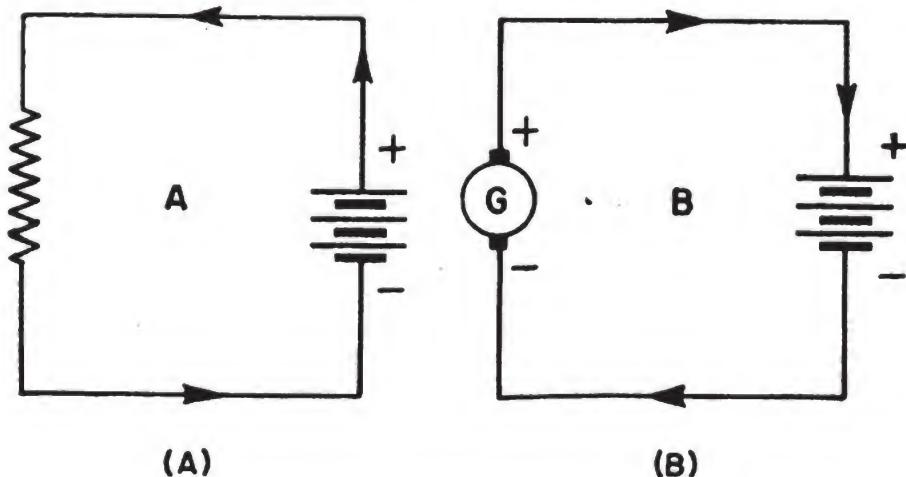

Figure 80.—Battery current—charge and discharge.
In (A) of figure 80, note that when a battery discharges, current flows from the positive ter-
minal and into the negative terminal. To charge, you must send a direct current through the battery in the opposite direction. You charge by connecting the battery to a **CHARGER** that provides voltage higher than that of the battery. As you see in (B) of figure 80, you connect the positive terminal of the generator to the positive terminal of the battery, and complete the circuit by connecting the negative terminals. If the genera-